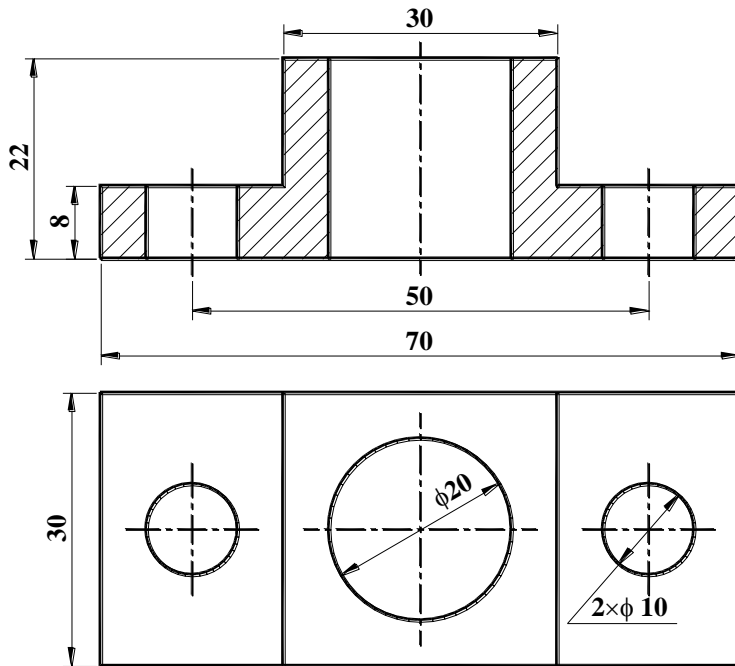

FIGURE T5.5
1. 1. FIND (I) TYPE OF FIT AND (II) TOLERANCES OF A 45 MM DIAMETER SHAFT ROTATING AT A NORMAL SPEED.
5. 5. DRAW THE ROUGHNESS GRADE SYMBOLS FOR THE SURFACES OF AN OBJECT SHOWN IN *FIGURE T5.5*.